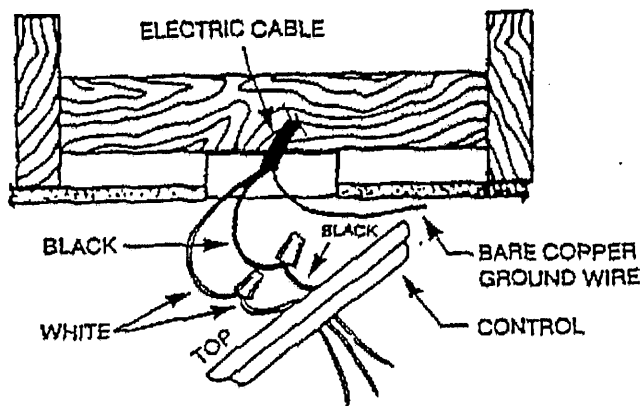

FIGURE 2
4. Wire the control to the power leads coming from the ceiling outlet box. Connect the wires from the top of the control — white to white, and black to black. See Figure 2. Push the wires up into the outlet box and arrange the wire connectors to point upward. Separate the wires so that the black wires are on one side of the box and the white wires are on the other.